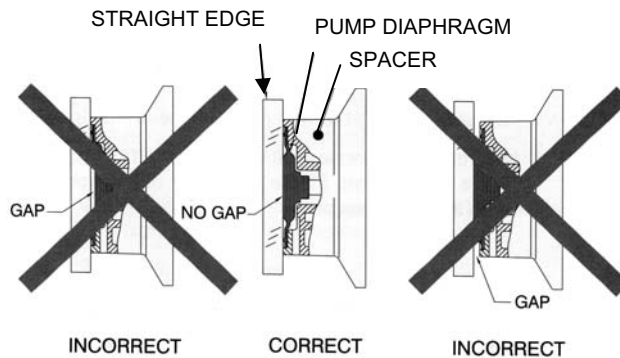

Figure 12. Diaphragm Positioning.
- i. Grasp the outer edge of the diaphragm and screw it in or out as needed so that the center of the diaphragm is flush with the outside edge of the spacer (see Figure 12).